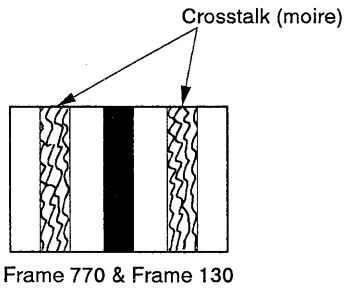

Fig. 7-2-8.
- 2) Insert the alignment disc to playback with side B at CAV side and pause at Frame 770. Check that the same block bar as the crosstalk adjustment at the side A on monitor. (See Fig. 7-2-8.)